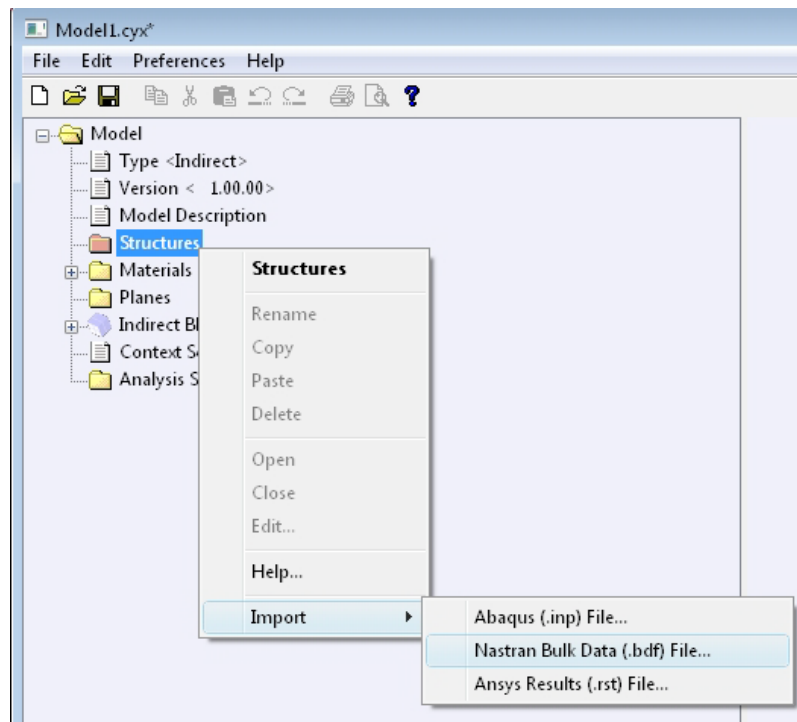

Figure A.29 Import a finite element structure mesh.
- Right-click on **Structures** and select: **Import** → **Nastran Bulk Data (.bdf) File...** (as shown in Figure A.29) to import mesh from Nastran bulk data format. The FE meshes from Abaqus and Ansys data formats can be imported by selecting **Abaqus (.inp) File** or **Ansys Results (.rst) Files** respectively.